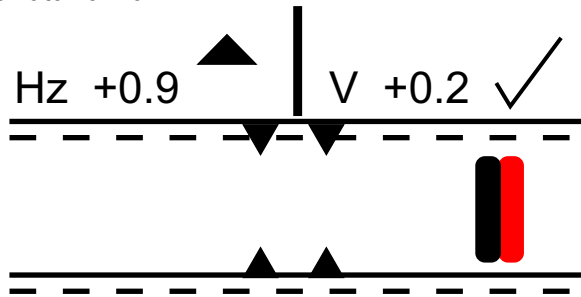

Figure 74. Frequency/Voltage Mismatch
- On generator #2, press the close contactor button and verify that the initializing synchroscope screen (Figure 74) is displayed as it closes the contactor.
Initially the synchroscope screen shows the difference between the bus and generator supplies. Figure 74 indicates a frequency mismatch of +0.9 Hz and a voltage mismatch of +0.2 V.
Figure 74 also indicates that the generator frequency is **too high** as shown by the arrow mark and must be reduced. The voltage is high, but is within the limits set for synchronizing, indicated by the check mark.